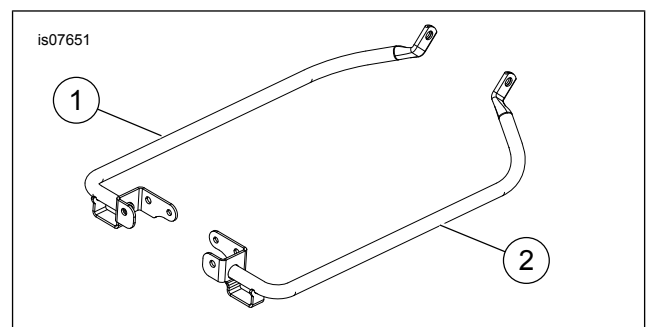

Figure 2. Service Parts: Saddlebag Support Kit
See Figure 2 and Table 2.
1. See Figure 2. Install saddlebag support assembly with saved hardware.